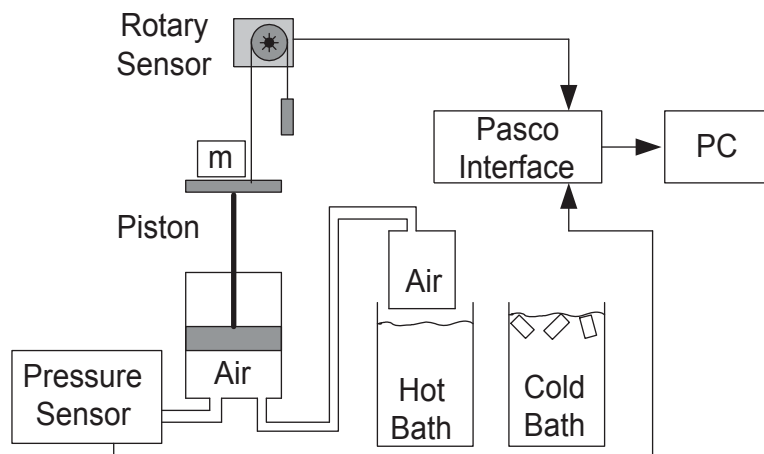

Figure 9.1: Gas behavior apparatus
The thermodynamic system and various sensors are illustrated in Fig. 9.1. There is a graduated cylinder with a graphite piston, an aluminum air chamber on the end of a plastic tube, and some temperature baths for immersing the air chamber. Sensors attached to the computer allow you to monitor the pressure and volume of the gas.
2. Make sure the pressure sensor and the aluminum air chamber are connected to the gas apparatus ports with both pinch clamps open as shown in Figure 9.1.